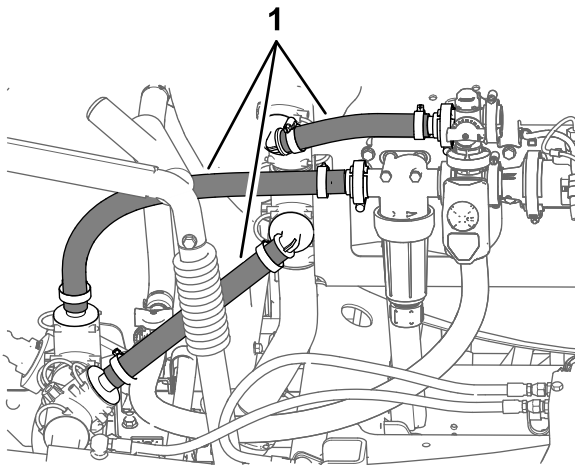

Figure 3
2. Remove the 3 hoses shown in Figure 3.